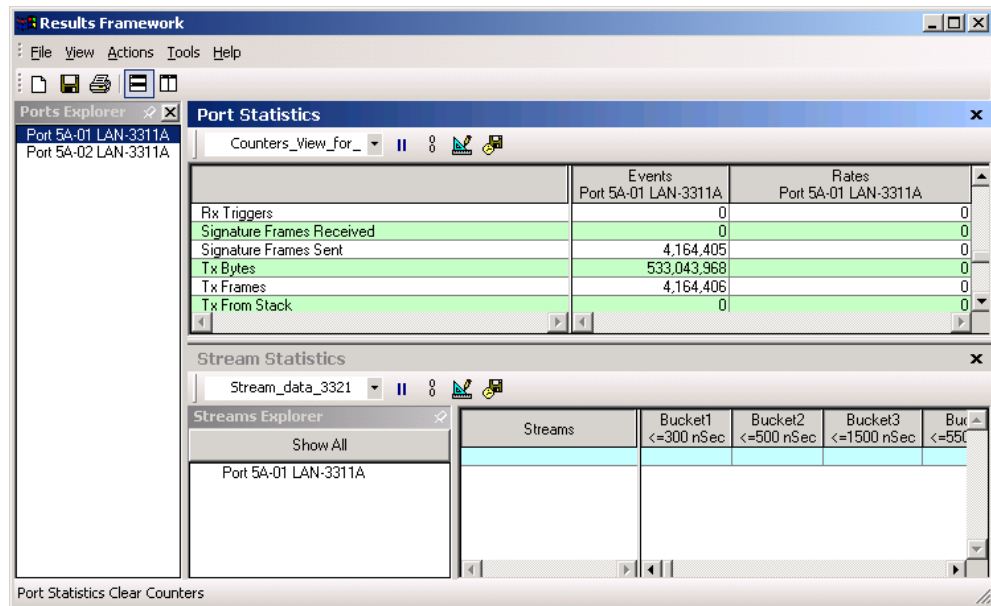

Figure 8-60. SmartCounters
SmartBits 600x/6000x modules have a series of SmartCounter windows that provide a number of ways to compute, design, and display counter data. SmartCounters consists of one primary window (*Results Framework*) with two nested windows (*Port Statistics* and *Stream Statistics*), one *Ports Explorer* window, one *Streams Explorer* window, and a status bar. See Table 8-23 for a listing of these SmartCounters components. (An illustration of these components is shown in Figure 8-60 on page 417.)
- 1 Select **Display Counters** from the *Port* menu to display the *Results Framework* window shown in Figure 8-60. SmartCounters can also be displayed through the *Actions* menu in the main window. (Refer to “Actions Menu” on page 59 for more information on how to use this menu.)